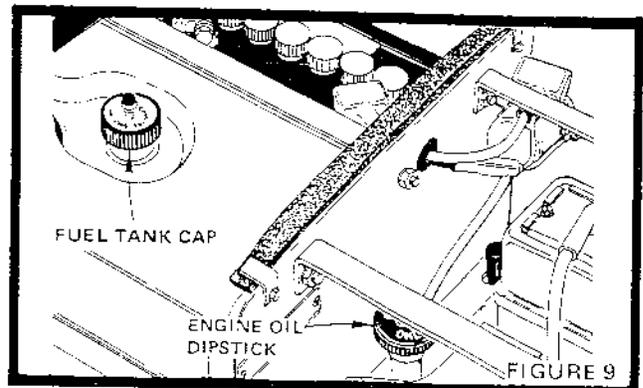

FIGURE 9
1. Check Engine Oil Level with Tractor on level ground. Wipe dipstick (Fig. 9) clean, screw it in tight for a few seconds, remove and read Oil Level. If necessary, add Oil until "FULL" mark is reached. In summer use S.A.E. 30 (SC, SD or SE) Oil. In winter (below 40°F.) use S.A.E. 10W30 (SC, SD or SE) or 10W40 (SC, SD or SE). In extreme cold (below 0°F.) use S.A.E. 5W20 (SC, SD or SE). NOTE: DO NOT OVER-FILL. DIPSTICK ASSEMBLY MUST BE PUSHED FULLY INTO TUBE AT ALL TIMES WHEN ENGINE IS OPERATING.
2. Fill Fuel Tank (Fig. 9) with fresh regular grade lead-free or leaded gasoline. Capacity is 7 quarts. NOTE: DO NOT SWITCH FROM LEADED TO LEAD-FREE GASOLINE.